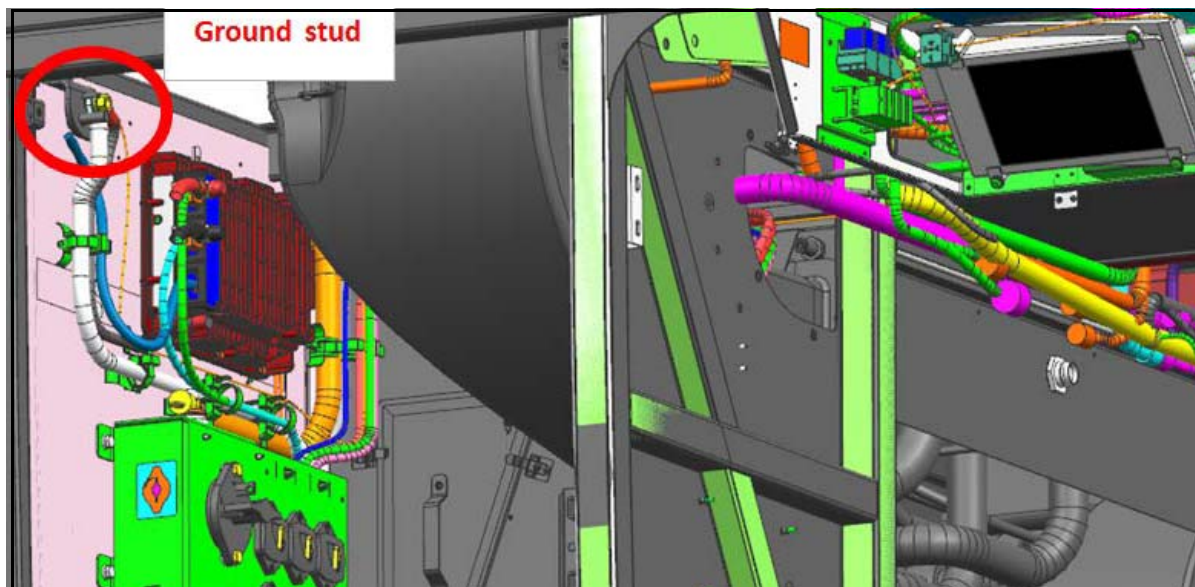

Figure 6.
22. Route the ring terminal end of the remaining cut section of the harness, p/n 07-12-5955 from the rear junction box to the ground stud in the battery compartment (refer to Figure 6).